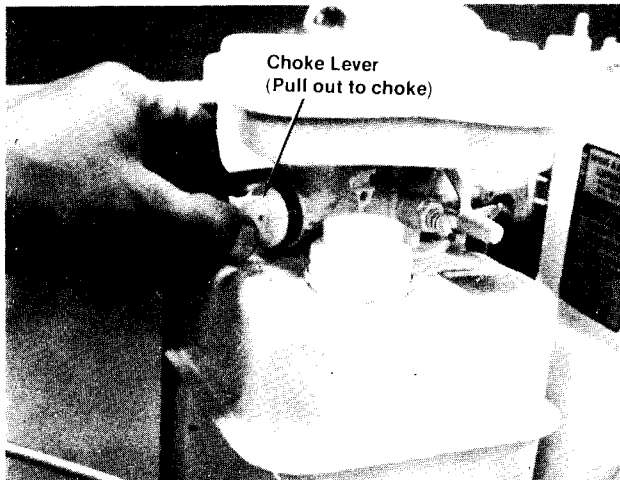

FIGURE 26.
3. **Choke:** The choke is located on the engine just below the air cleaner. To choke the engine pull the choke lever out. See figure 26.
3. Choke engine. Pull choke lever out. See figure 26. Once the engine starts, push the lever up.